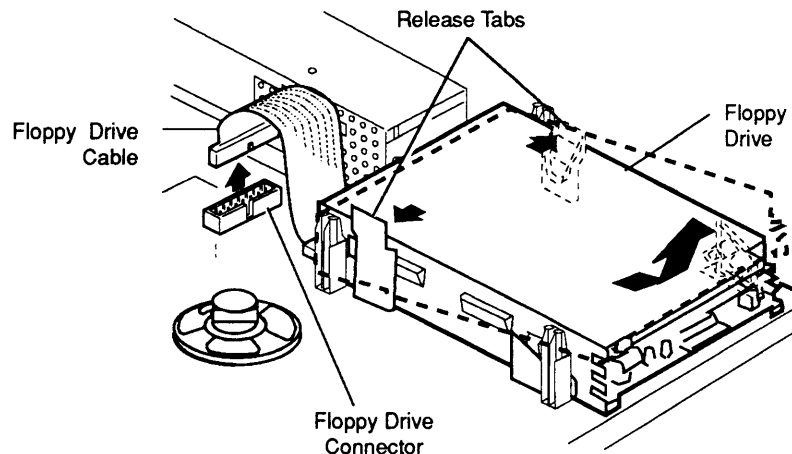

Figure 2-8 Removing the Floppy Drive (Macintosh LC II Only)
2. Disconnect the floppy drive cable from the floppy drive connector (J2) on the logic board (**Figure 2-8**).
3. Release the two plastic tabs at the rear of the floppy drive (**Figure 2-8**), and lift the drive up and out.
1. Insert the metal locating screws on the front of the drive carrier into the grooves on the plastic brackets that hold the front of the drive (**Figure 2-8**). Push down on the back of the drive until the drive snaps into place.
2. Connect the floppy drive cable to the drive (if necessary) and to connector J2 (**Figure 2-8**) on the logic board.